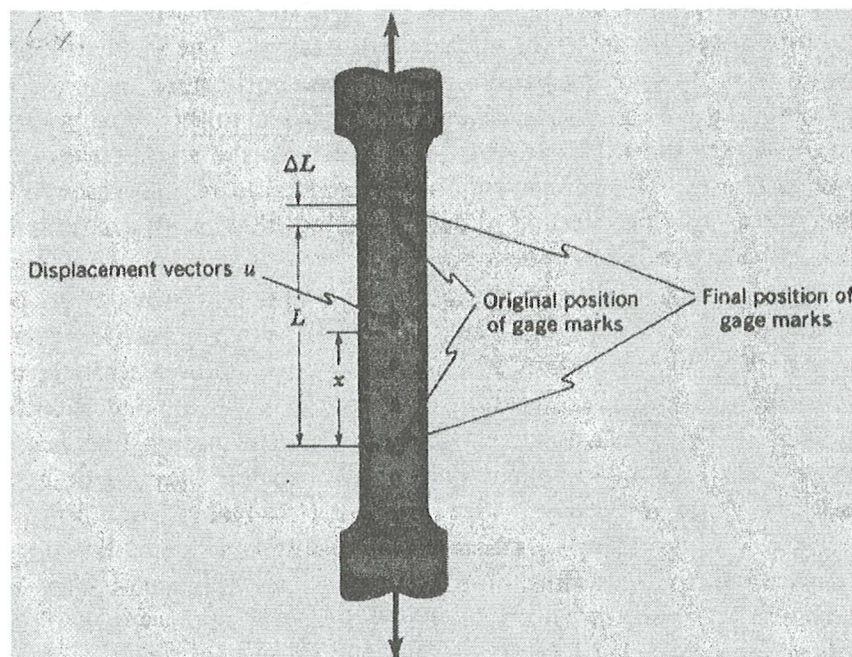

Figure 7/Gambarajah 7
6. (a) In figure below, the lower gage is mark as the point of zero displacement, and the displacement vectors of various points on the specimen are shown in the figure. If the displacements vary uniformly over the gage length L , (See Figure 7).